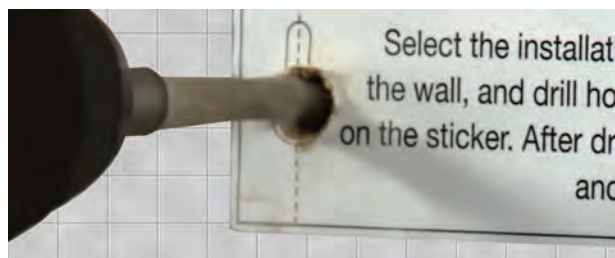

Fig. 4.83
6. Drill to such a depth that the plastic inserts could go completely inside the hole as shown in Fig. 4.83.